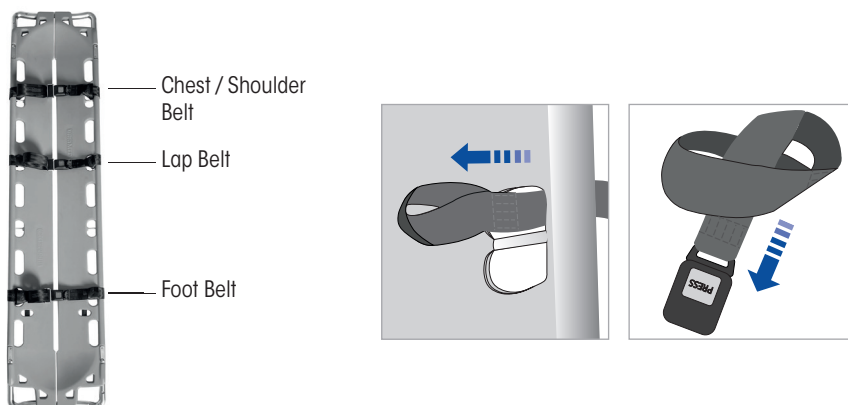

Fig. 2
5. Secure all 3 patient safety belts (Figure 2). The latches must always audibly lock into place. For safety reasons, subject the latches to a test by pulling at the appropriate point. Ensure that the injured party's breathing is not encumbered by the traction of the belts.